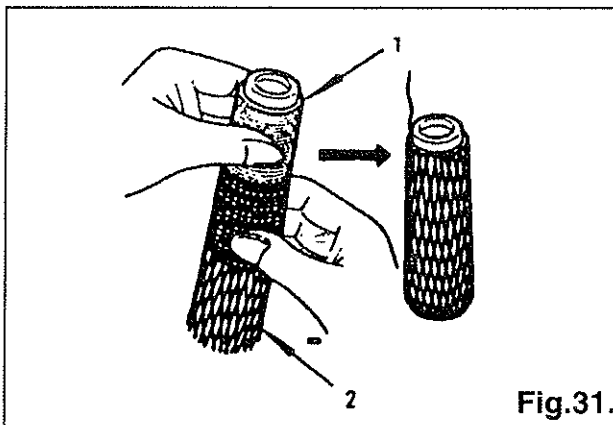

Fig.31.
When using synthetic threads that easily spill off the cone (1), slip the anti-pill sleeve (2) furnished with the machine over the thread from the bottom of cone (1) leaving the thread end to hang free at the top of anti-spill sleeve (2) as shown in Fig.31.